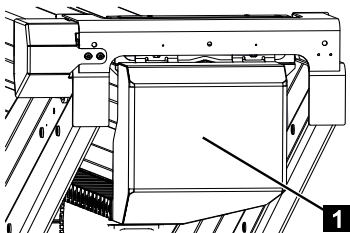

Fig. 260
13. Properly fit the cover (Fig.260/1) again.